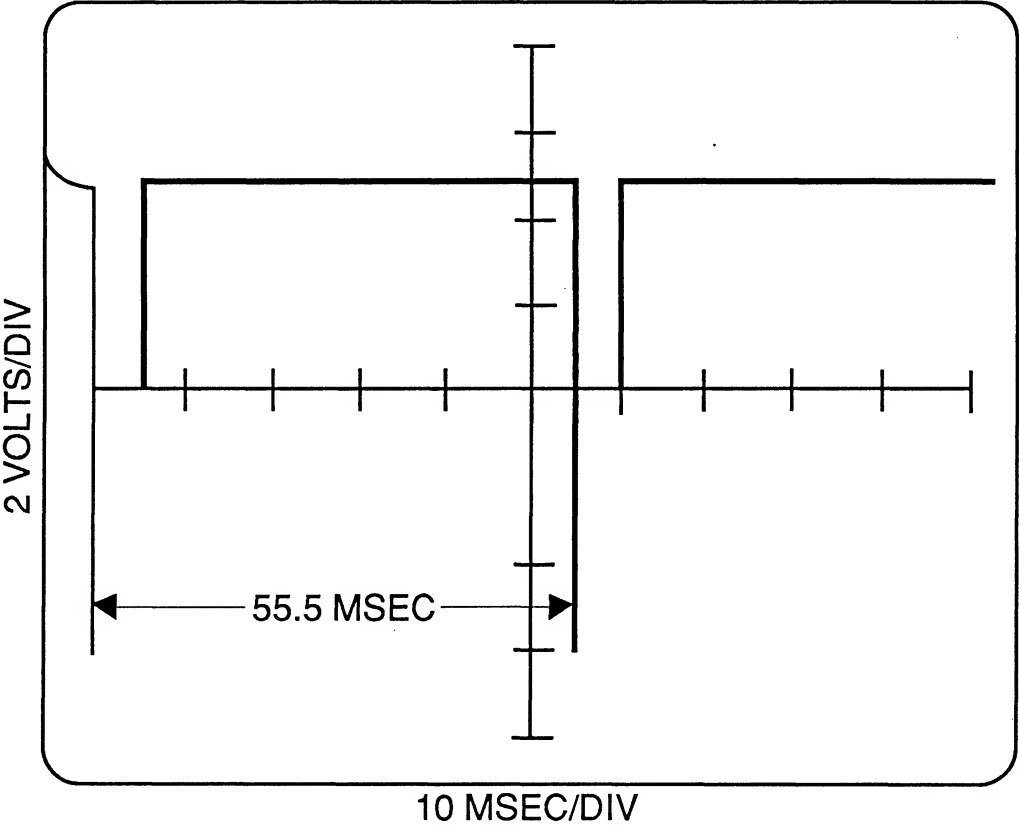

Figure 5-6. Print Speed Adjustment Waveform
10. Adjust the print speed (R11) until the time interval shown in the waveform diagram in Figure 5-6 is 55.5 ms \pm 1 ms.